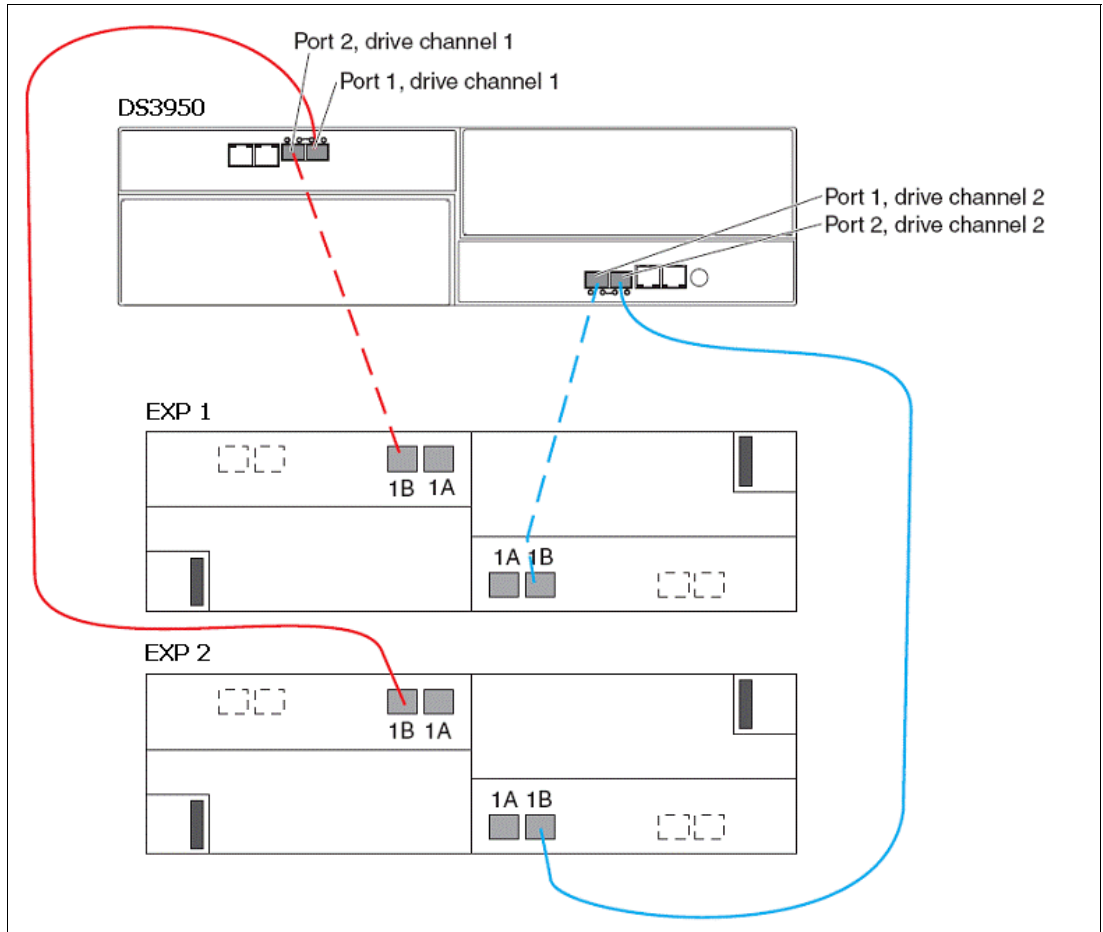

Figure 12 DS3950 drive cabling with two EXPs
- ▶ If you attach a second expansion unit, connect it by using the second port on the controller (controller A port 1 and controller B port 2), as shown in Figure 12.